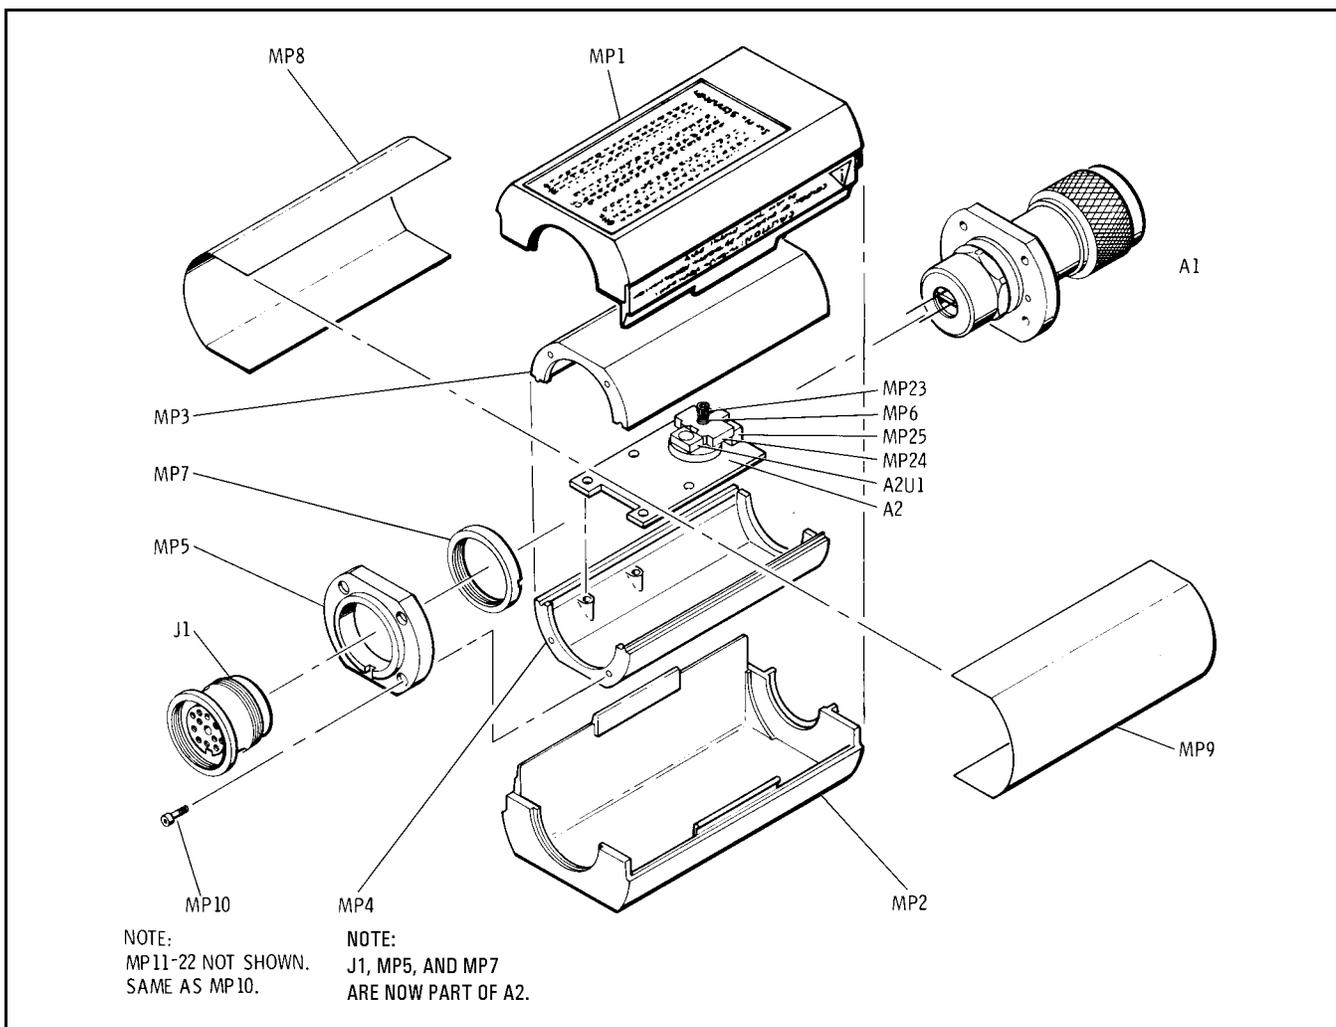

Figure 2. Illustrated Parts Breakdown
Table 5 is a list of replaceable parts. Figure 2 illustrates the major parts. To order a part listed in the "Replaceable Parts" table, quote the part number with Check Digit (CD), indicate the quantity required, and address the order to the nearest Agilent Technologies office.